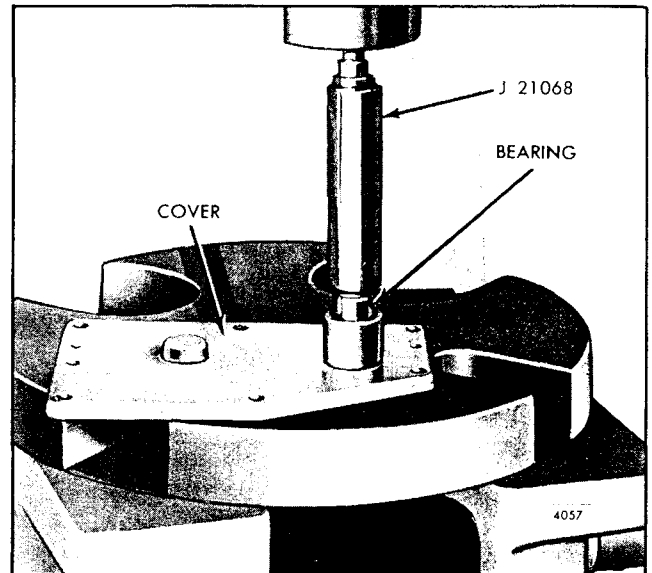

Fig. 13 - Installing Governor Cover Bearings
1. Place the cover, with the inner face down, on the bed of an arbor press. Start a needle bearing straight into the bearing bore of the cover, with the number side of the bearing up. Then, insert bearing installer J 21068 in the bearing and press the bearing in until the shoulder on the tool contacts the cover (Fig. 13).